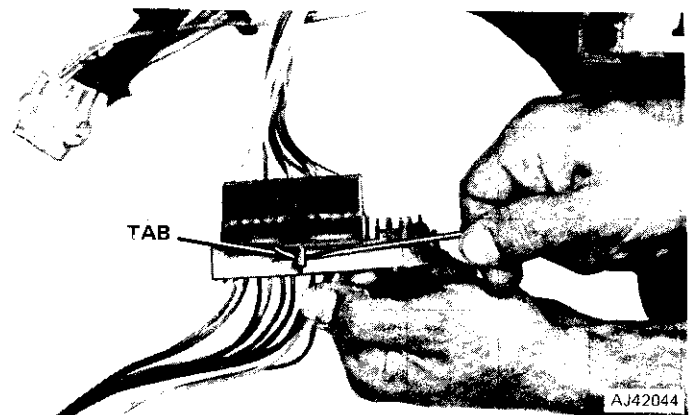

Fig. 2J-7 Disconnecting Turn Signal Switch Harness
(15) Remove turn signal switch attaching screws and remove switch. Pull switch and harness straight up and out of housing (fig. 2J-8).
(16) On vehicles with Cruise Command, remove turn signal lever and switch and remove switch harness using string previously taped in place.